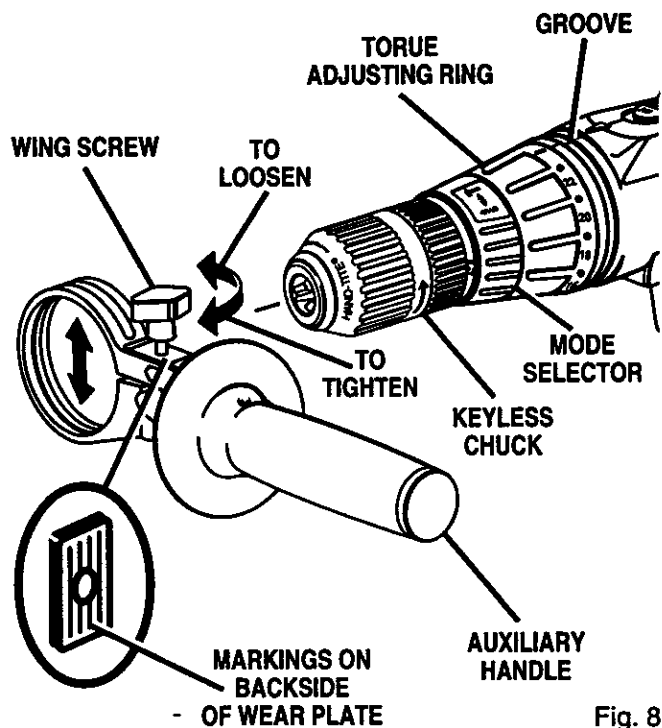

Fig. 8
See Figure 8.
- Note:** If wing screw and wear plate is removed from auxiliary handle, when reassembling, the markings on the wear plate must be positioned as shown in figure 8. This prevents the depth gage rod from slipping. See Figure 8.